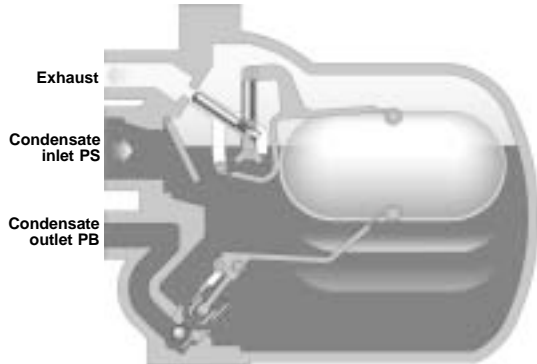

Fig. 5
Step 2 (Fig. 5)
With some temperature controlled equipment, it is possible for the system pressure PS to be lower than the back pressure at PB (Fig. 5). If this occurs a standard trap will stall allowing the condensate to flood the equipment being drained.